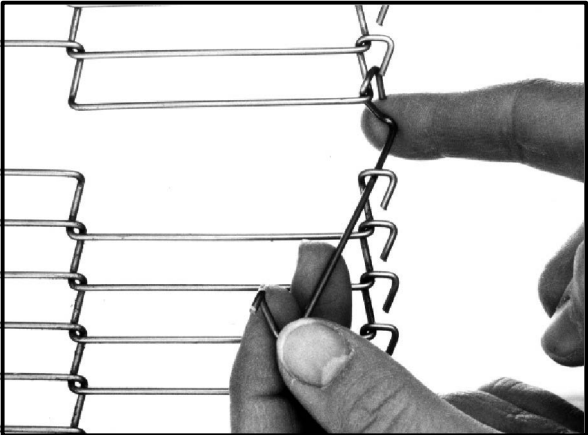
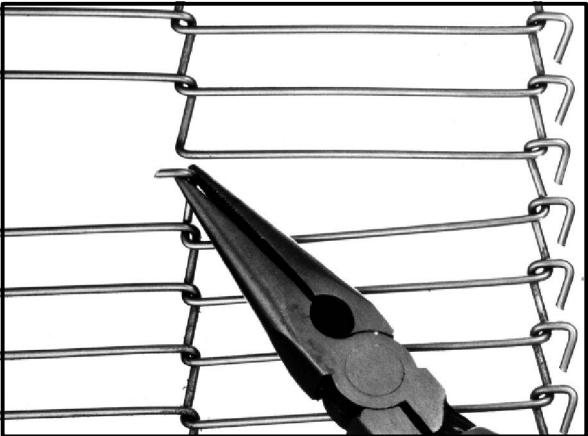

Figure 12
Figure 13
5. Install the outer master links. See Figure 12 and Figure 13